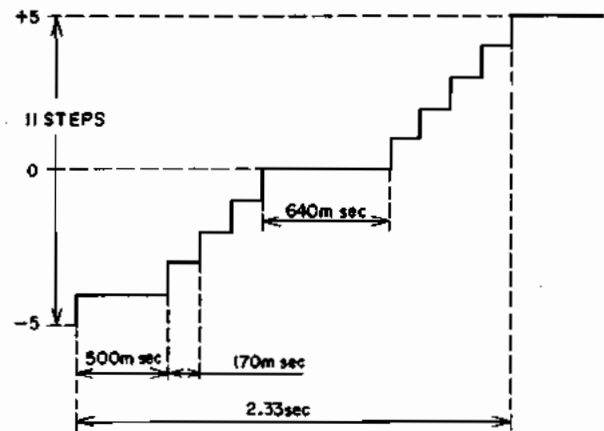

Fig. 1-21 Volume Change of BASS and TREBLE
- a. After the first one step change, the second step change occurs after 500msec, and then, subsequently the value is changed every 170msec. However at the centre value, a 640msec stop occurs before going to the next step. (See Fig. 1-21)